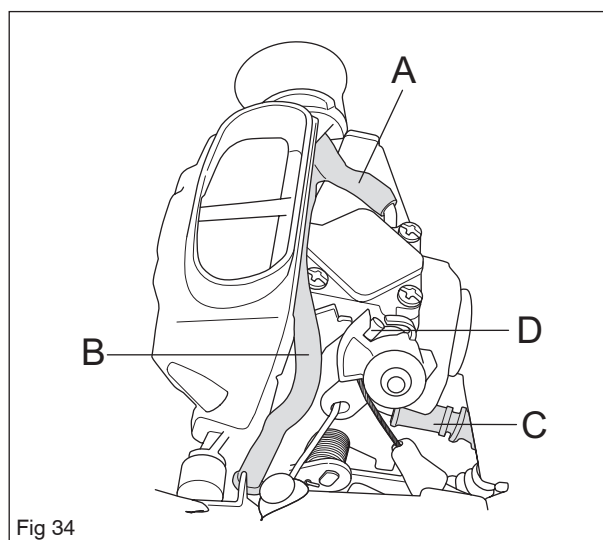

Fig 34
3. Loosen the suction hose A and the return hose B. See figure 34.
4. Remove the air filter holder. Let the air filter holder remain in place in the cabling for the stop button. Loosen the fuel hose, C Unhook the throttle cable, D. See figure 34